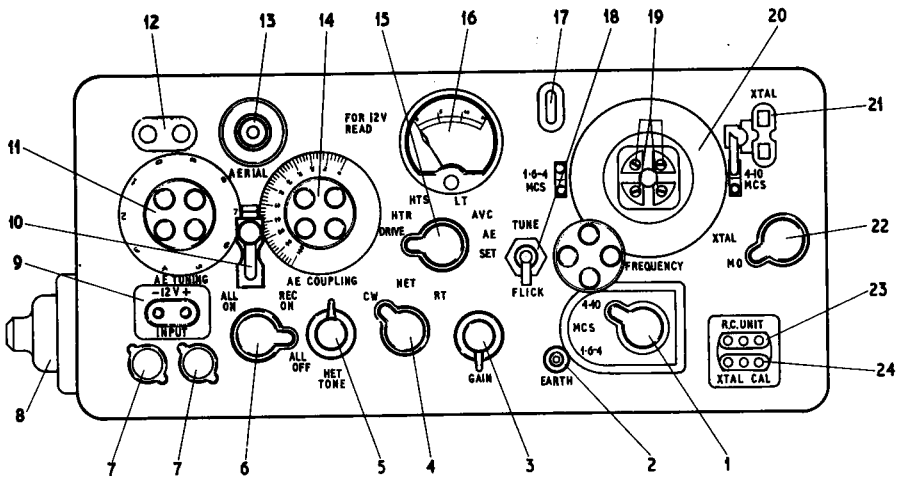

Fig. 8 FRONT PANEL CONTROLS
2. The numbers shown in brackets in this chapter refer to Fig. 8.